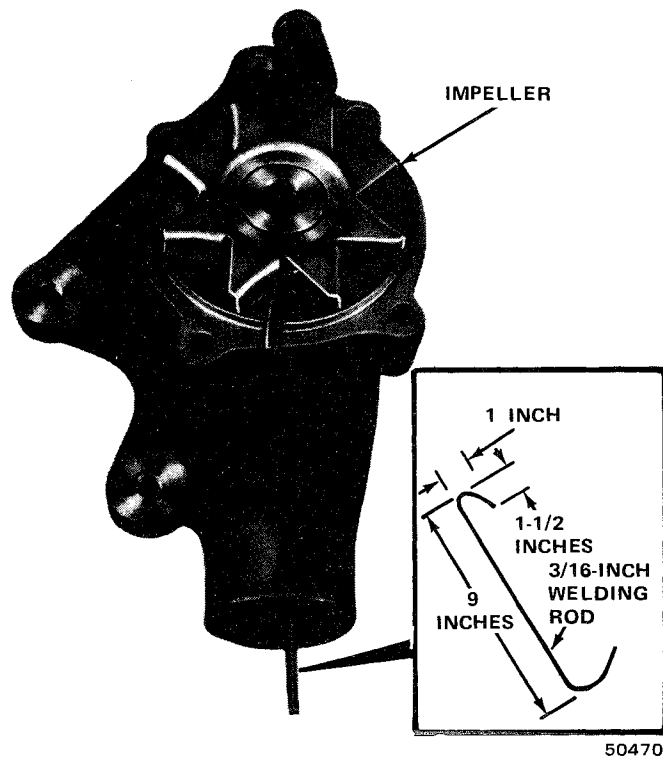

Fig. 1C-9 Checking Water Pump for Loose Impeller—Typical
- (1) Drain radiator.
- (2) Loosen fan belt.
- (3) Disconnect lower radiator hose from water pump.
(4) Bend stiff clothes hanger or welding rod as shown in figure 1C-9.
(5) Position rod in water pump inlet and attempt to turn fan. If impeller is loose and can be held with rod while fan is turning, pump is defective. If impeller turns, pump is OK.
(6) Connect hose and replenish coolant, or proceed with further repairs.